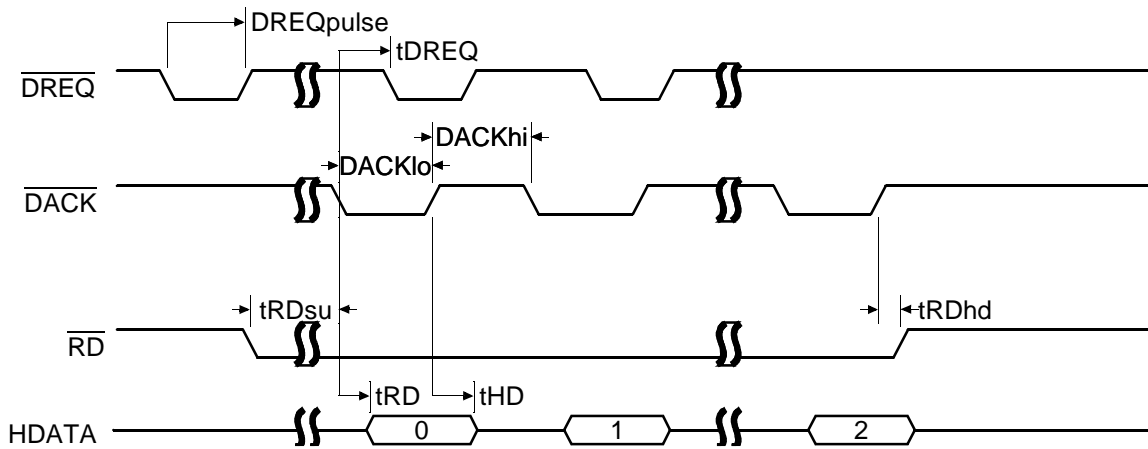

FIGURE 37. Single Read Cycle for DREQ/DACK DMA mode for assigned DMA channel EDMODx<14:11> NOT programmed to a value of 0.
* DREQ/ pulse width is programmable. Refer to table 20 and figures 37 and 38.